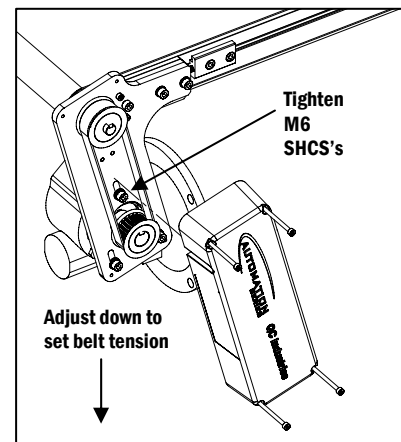

Figure 5
- c. Retighten the three M6 Socket head Cap Screws with an Allen Wrench to hold the gearbox and subplate in position (**Figure 5**).